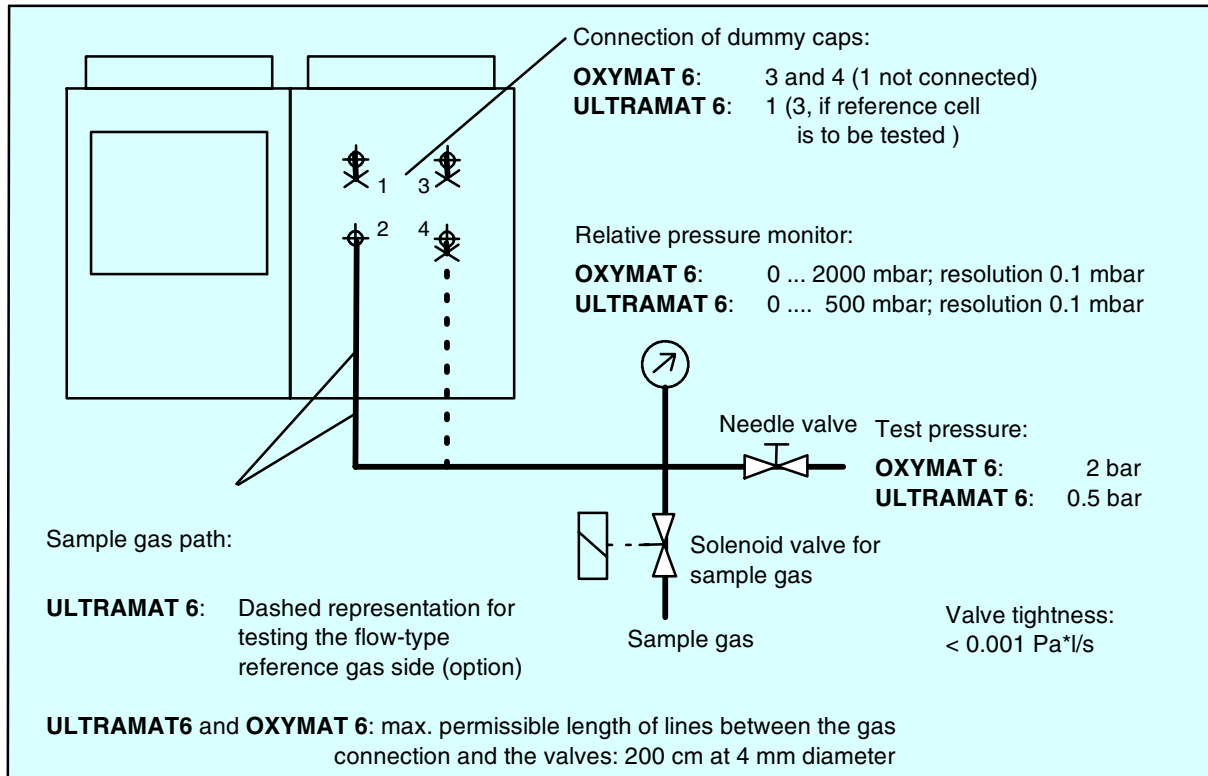

Fig. 2-1 Recommended test setup for leak testing of OXYMAT 6F and ULTRAMAT 6F
- The analyzer should be subject to annual maintenance to check the electrical safety and functionality, especially a leak test of the containment system is strongly recommended. The procedure is described below (recommended test setup: see Fig. 2-1).